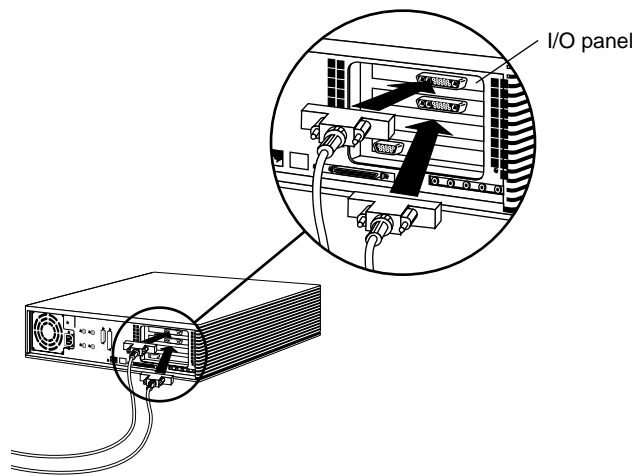

Figure 5-4 Identifying the I/O Panel Connectors
2. Connect one end of each monitor cable to the monitor connector on the back of each monitor, as shown in Figure 5-4. Connect and tighten the thumbscrews on both sides of the connector.
3. Connect the other end of the primary and secondary monitor cables to the appropriate connector on the back of the Indigo² or Indigo² IMPACT Ready chassis. See Figure 5-4 for an overview of this task.